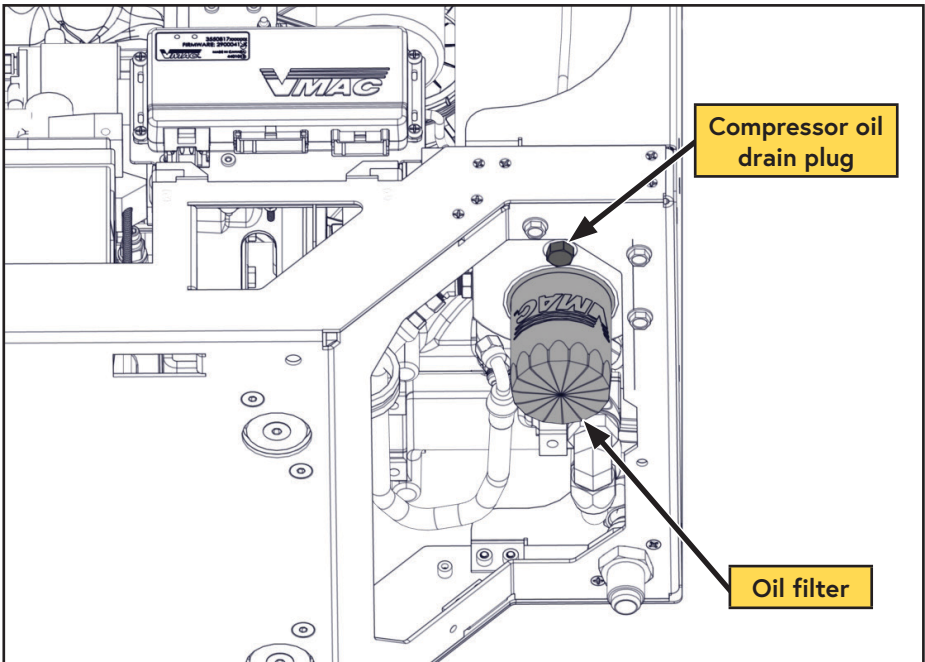

Figure 27 — Drain compressor oil
- ☐ Remove the oil drain plug and drain the oil into a container with a capacity of at least 1.3 USG (5 L) (Figure 27).
- ☐ Remove the oil filter (Figure 27).